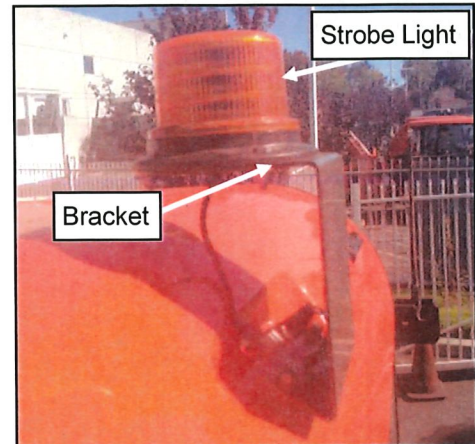

FIGURE 1.2
2. Install (3) M5 x 25mm screws through holes in strobe light & bracket. Fasten using nylon lock nuts and M5 fender washers on underside of bracket. (See Figure 1.2)
3. Install bracket onto vehicle using hardware from vehicle. Connect bullet connectors from vehicle into those coming from the strobe light. (See Figure 1.2)